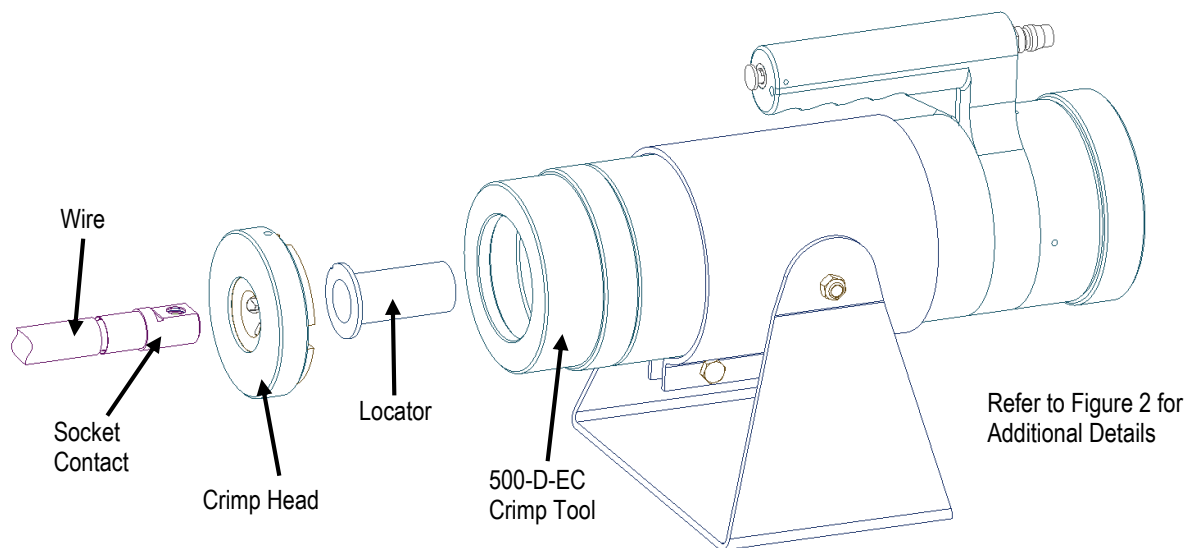

Figure 4
5. Insert the contact body and conductor into the crimp die and locator as show in Figure 4.